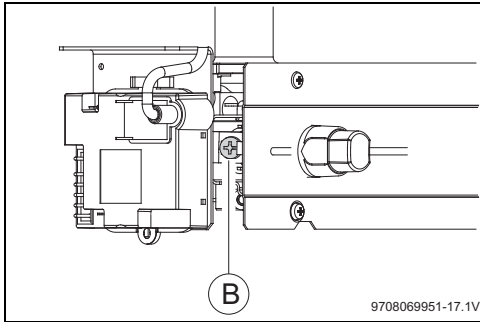

Fig. 11 Minimum gas flow adjusting screw
- ▶ Using the adjusting screw (Fig. 11, [B]) to adjust the gas pressure to the values indicated in table 9.